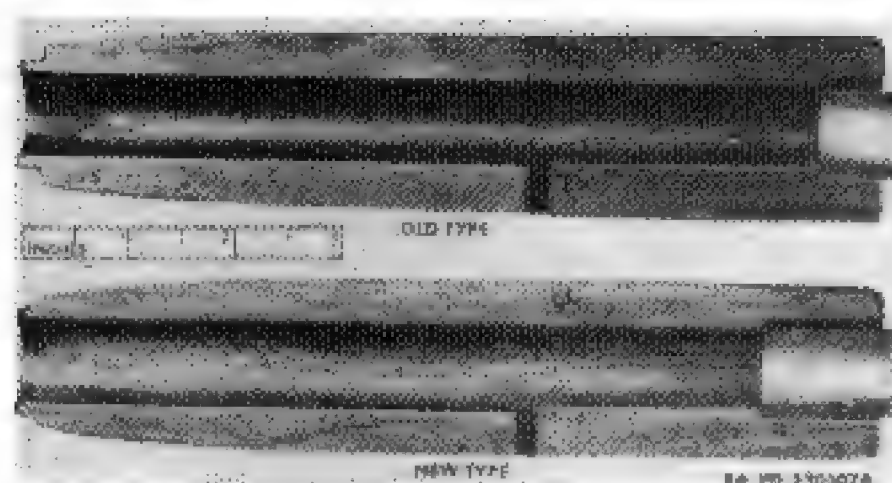

Figure 99. Hand guard assembly 6212602.
*h. Hand Guard Liner.* Check to assure that liner in hand guard assembly is not distorted and is securely fastened to hand guard. Liners with two rivets or with four rivets, if serviceable, may be used on carbines M1 and M1A1. Only the four-rivet type hand guard assembly 6212602 is to be used on the carbines M2 and M3 (Fig. 99).